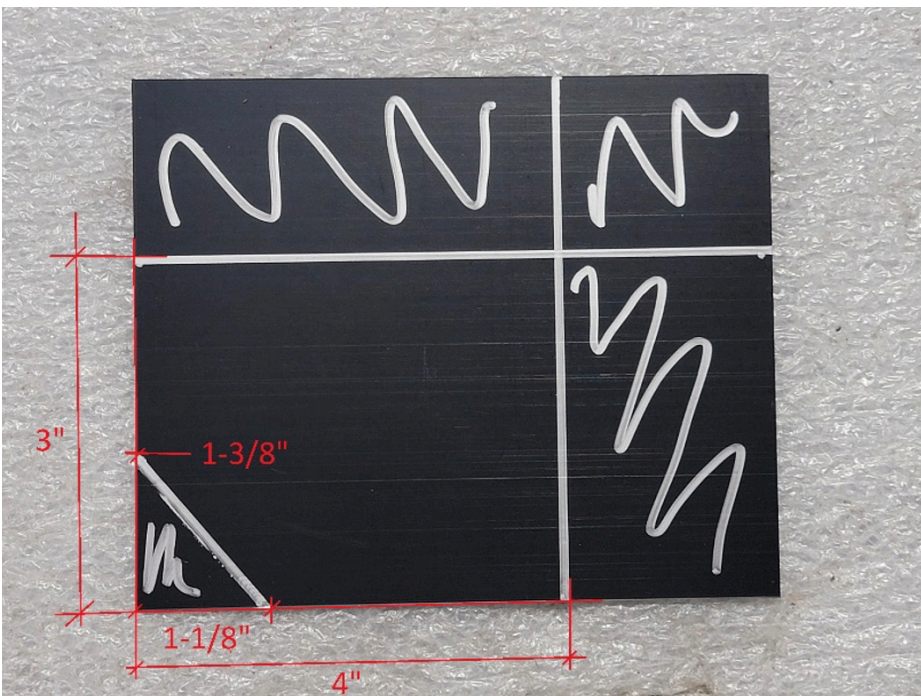

Figure 20
20. Trim the provided ACC sensor plastic cover plate to the specifications shown below. Figure 20.